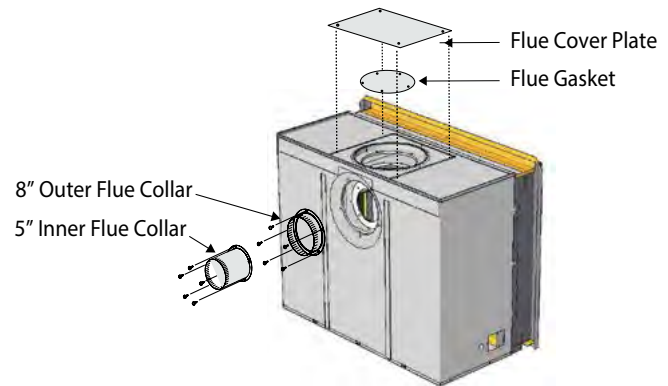

Figure 8a. *Flue cover and collar installation, Rear Vented fireplace.*
3. **Install the (removed) Rear flue cover and gasket material, to the Top vent outlet. Fasten the cover with included hardware, as illustrated Figure 8a.**
4. Install the (5" and 8") collars to the rear vent outlet using the included hardware, as illustrated Figure 8a.